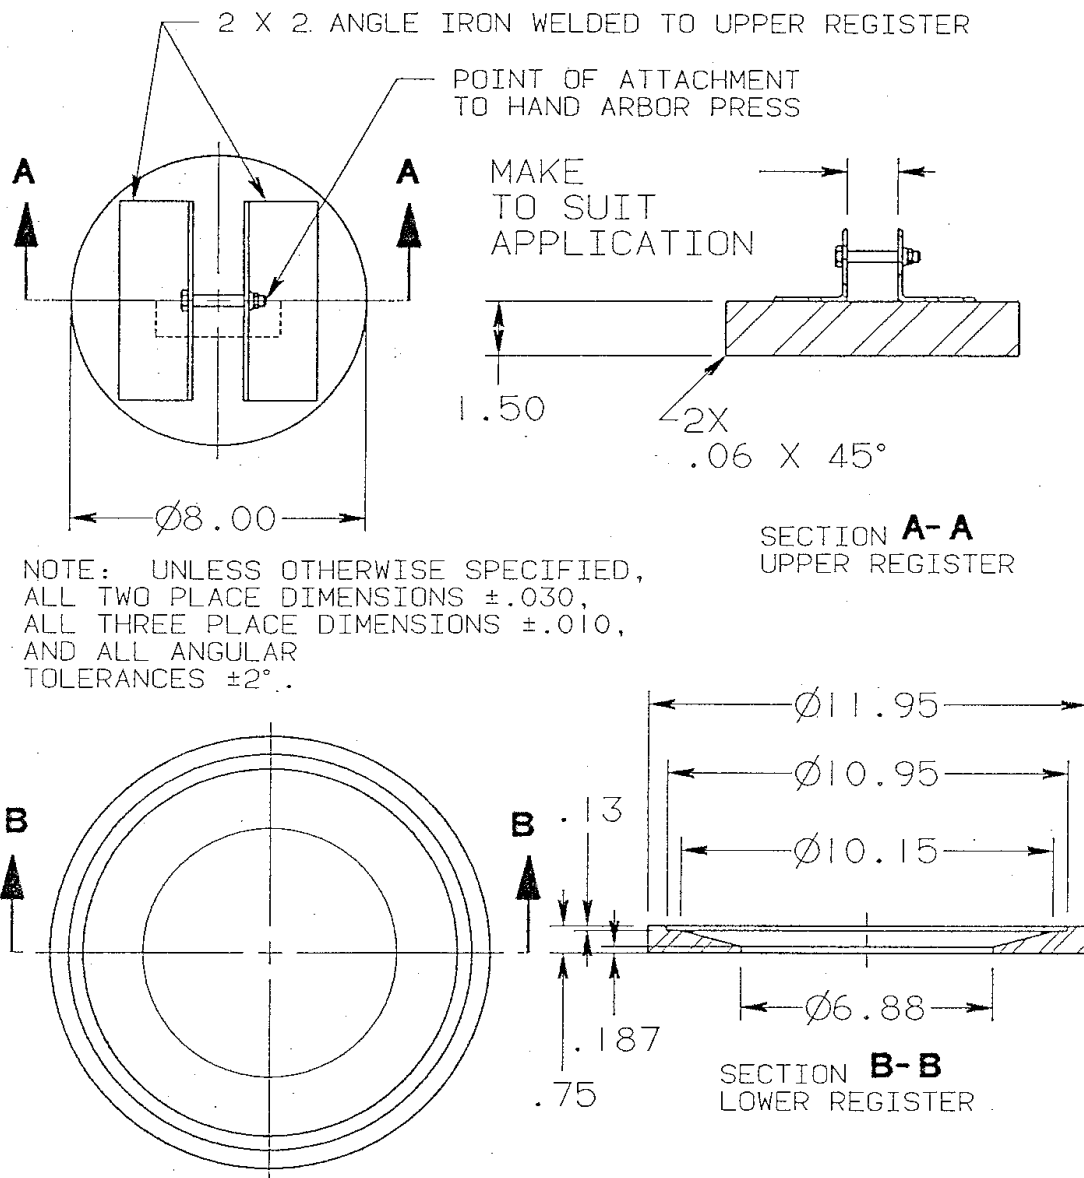

Figure 502
- E. Use a vice or an arbor press to reset the spacer (Item #30), friction sleeve (Item #28), and sleeve retainer (Item #29) onto the stud (Item #27) as shown in figure 502.